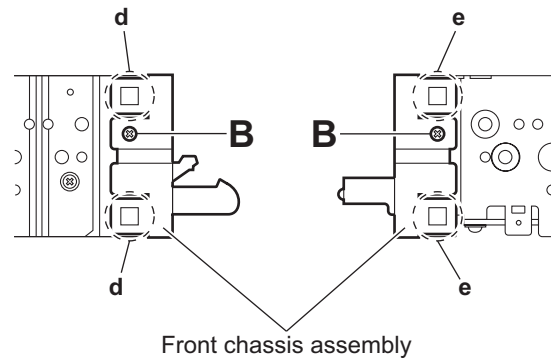

Fig.4
- (2) Remove the two screws **B** on the both sides of the main body. (See Fig.4)
- (3) Release the joints **d** and joints **e** on the both sides of the main body, then remove the front chassis assembly toward the front. (See Fig.4)